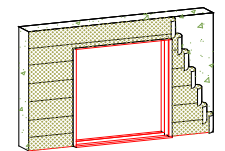

Figure 5
19. Weather resistant building paper should be applied in a weatherboard fashion to complete the installation. (See fig. 5)